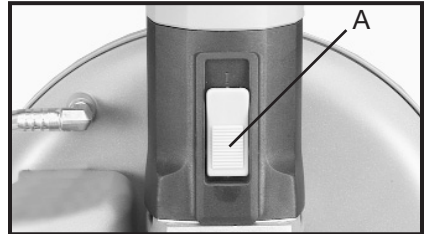

Fig. 19
1. To start the machine, slide the switch button (A) Fig. 19, down until the switch locks into the ON position.